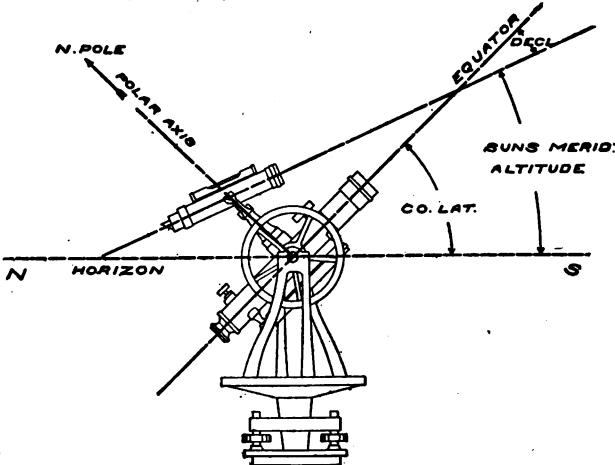

Fig. 3.
3. Without disturbing the relative positions of the two telescopes, elevate the transit telescope (and with it the solar) until the amount of the co-latitude is indicated by the vernier of the vertical circle. See Fig. 3.
Direct the transit telescope towards the south, incline it to an amount equal to the sun's meridian declination uncorrected for refraction, depressing the telescope if the declination is north and elevating it if it is south. Now bring the solar telescope into the vertical plane of the transit telescope and to a perfectly horizontal position by means of its level, then clamp it. A few minutes before apparent noon (the moment of the sun's culmination) bring the sun's image between the two horizontal wires of the solar telescope by moving *only* the *transit telescope* in altitude and azimuth. By means of the tangent screws of the transit, keep the sun, as it continues to rise and travel southwards, in this position relative to the cross hairs of the solar telescope. When it has ceased to rise, take the reading of the vertical arc of the transit, deduct from it the refraction due to this altitude, and the remainder is the co-latitude, which deducted from 90° gives the latitude. The position of the two telescopes is identical with that shown in Fig. 3.